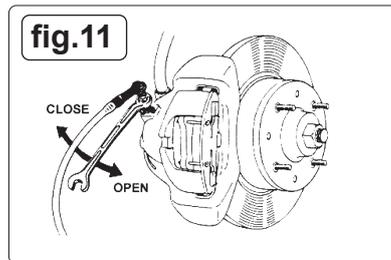

fig.11
- 9.4. Push the blue flexible plastic brake nipple connector onto the brake nipple on the first wheel and open the nipple about 1/4 of a turn. (See fig.11)
- 9.8. Close the brake nipple (See fig.11).